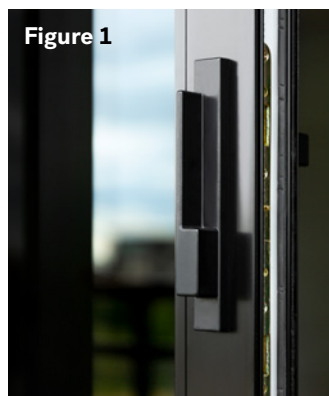

Figure 1
1 Insert the fixed panel into the frame. Do not push the fixed panel in place immediately and insert the foam insulation on the fixed panel support. (Figures 1 & 2)
- 1** Insert the top of the 1st opening panel into the cavity in the top of the frame. Pivot the bottom of the panel well centered over the track and lower carefully. (Figure 1)
- 1** Insert the cap into the track in the head of the frame. (Figure 1)
- 1** On the outside. Check that the foam pad is well installed under the outside handle. Place the handle on the outside of the sash. (Figure 1)